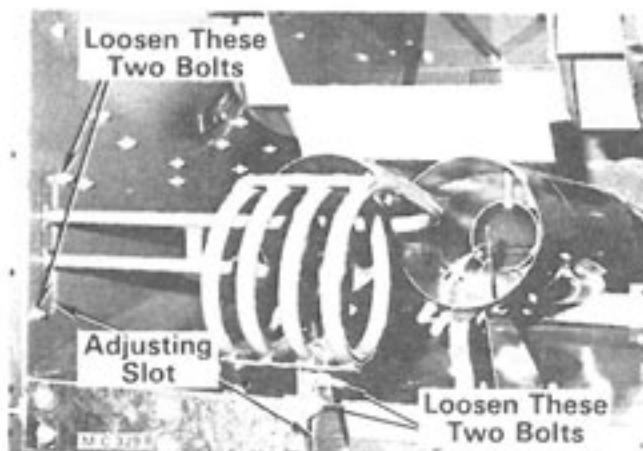

Figure 13 - LP Gas Vaporizer Coil
E. Go into the plenum chamber and move the coil up or down for warmer or cooler. See Figure 13.